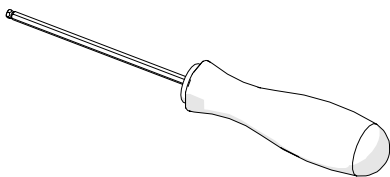
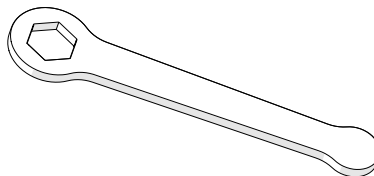
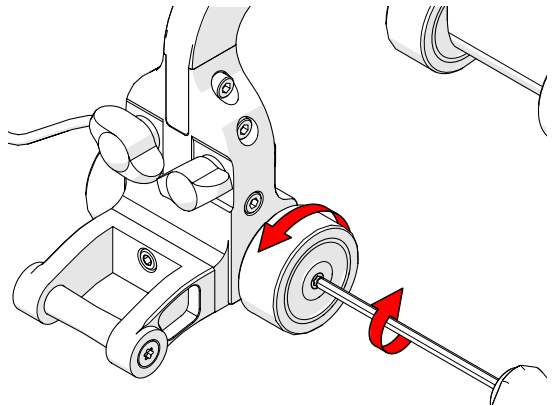
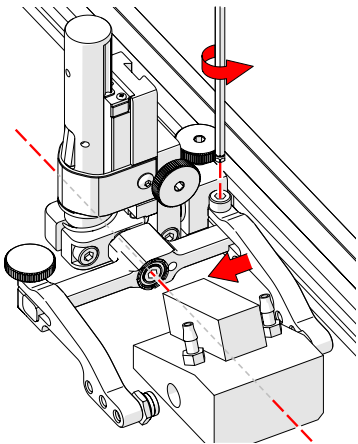

Fig. 15 - 3 mm hex driver
Fig. 16 - 3/8 in wrench
Fig. 23 - Tighten wing knobs
Fig. 35 - Adjust inner arm
The 3 mm hex driver (*Fig. 15*) is sufficient for all typical operations and adjustments of the **ROTIX**. The 3/8 in wrench (*Fig. 16*) removes and installs pivot buttons on the probe holders.
By hand, tightly grip the wheel to be removed. Using the supplied 3 mm hex driver (Fig. 15), loosen the wheel from the axle (Fig. 23). Reverse these steps to install wheels on the link.
**TIP:** The probe holder yoke can accommodate many different probe and wedge sizes of varying widths. It is best to centre the wedge with the yoke's pivot axis. This can reduce wedge tipping when scanning. Position the inner probe holder arm accordingly (Fig. 35) using the supplied 3 mm hex driver (Fig. 15).